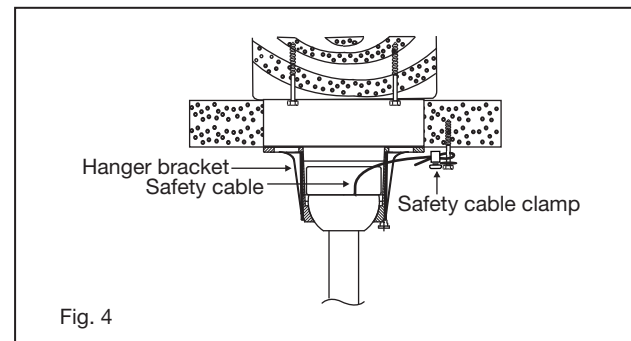

Fig. 4
- 3 Lift ball/downrod/fan into hanger bracket opening. **NOTE:** The tab opposite hanger bracket opening should fit in slot on ball. (Fig. 4)
Attach the lag bolt and flat washer to ceiling joist. Attach the safety cable to lag bolt. Slide cable clamp onto safety cable (from fan). Place the end of cable through the lag bolt. Pull as much cable through lag bolt as possible. Feed end of cable into clamp hole and firmly tighten screw (Fig. 4). Cut off excess safety cable.
- 2 Connect the black lead wires from the switch in the cradle A to the black wires in the switch box. Hot input wire to one of the cradle switch leads. Power lead to the fan is connected to the remaining switch lead. (Fig. 4)